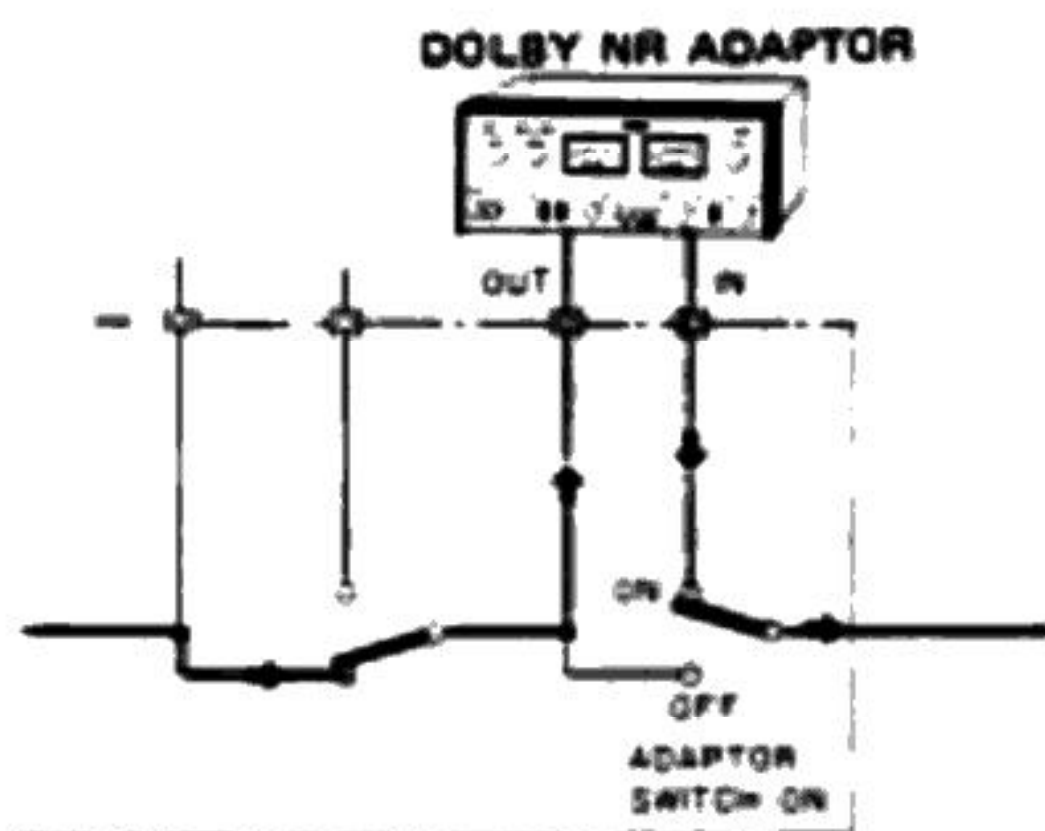

Fig. 24
2. Connect the Dolby adaptor as shown in Fig. 24 to the ADAPTOR IN and OUT jacks.